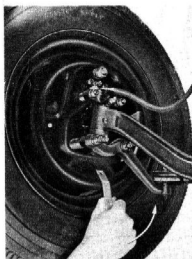

Fig. 50—Adjusting Brakes— $\frac{1}{2}$ Ton
3. Remove adjusting hole covers from flange plate on all four wheels. Expand brake shoes by turning adjusting screw until a light drag is felt on the brake drum (fig. 50), then back off adjusting screw 14 notches and replace adjusting hole covers.